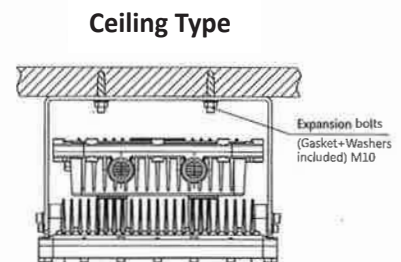

Figure 2
10. The luminaire can be adjusted facing down 90° from vertical = Lens horizontal facing down on ceiling position. **FIGURE 2**